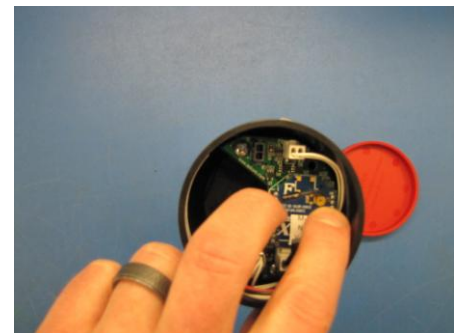

Figure 12
12. Insert new chip on circuit board so both rows of pins on the back of the chip connect into the outer rows of holes in the two rows of black sockets on the circuit board. Be sure that each pin has a hole to mate with, and that the bottom edge of the board is nearly flush with the white Temperature Sensor connector. Press firmly on top of both rows of pins as shown in Figure 12 to make sure the chip seats in the circuit board properly.